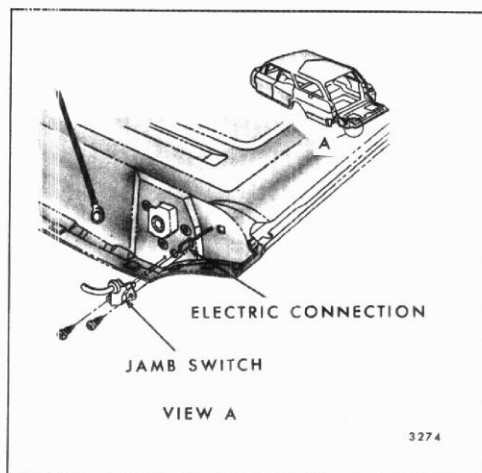

Fig. 9-50-Tail Gate Jamb Switch
**NOTE:** On styles equipped with power operating tail gate windows, engage jamb switch (Fig. 9-50) and operate window to position desired. Engaging the tail gate jamb switch makes it possible to operate the window (by key switch) with the gate in the open position.